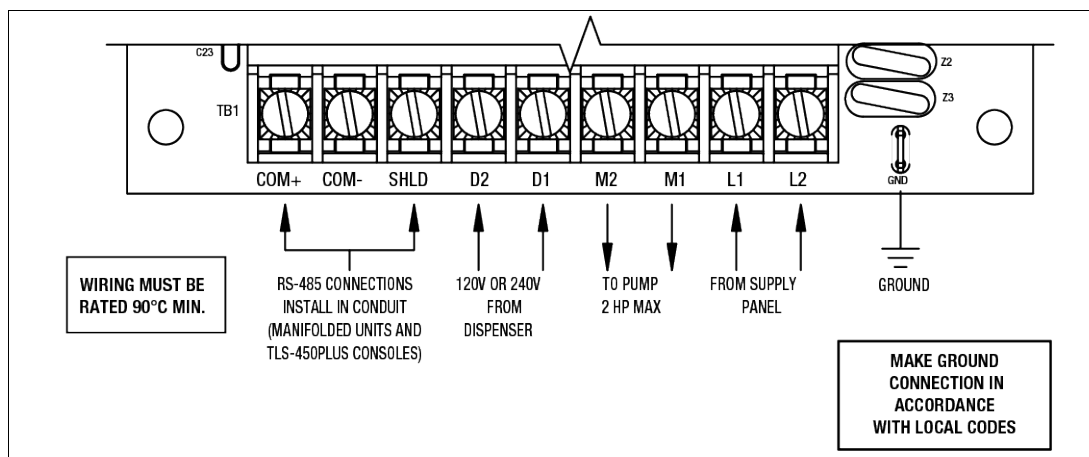

Figure 2. Terminal Block TB1, Models -051, -052
3. While viewing the wiring diagram or inside the enclosure cover, connect the input power L1 and L2 wires to the terminal block labeled TB1 (see Figure 2). This control box is designed to operate from 200 to 250Vac. Since the submersible turbine pump is powered by the M1 and M2 terminals (and M3 terminals -058, -059 models) on the circuit board, refer to the installation and instruction manual that was supplied with the pump for correct supply voltage. Typical pump ratings are 200 to 250 Vac.